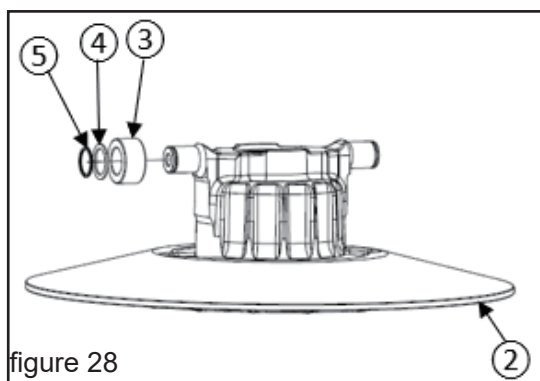

figure 28
- ◆ Insert the 2 rollers ③, the 2 washers ④ and the 2 external retaining rings ⑤ on the roller pins of the sliding sheave ② (see figures 28 and 29)